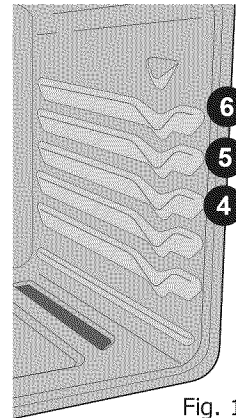

Fig. 1
- When using 2 oven racks at the same time, place in oven rack positions 2 & 4 for best results (See Fig. 1). Please note that layer cakes will have better results using the Bake function.
6. Place the broiler pan and insert on the oven rack (if equipped-See Figs. 1 & 2).